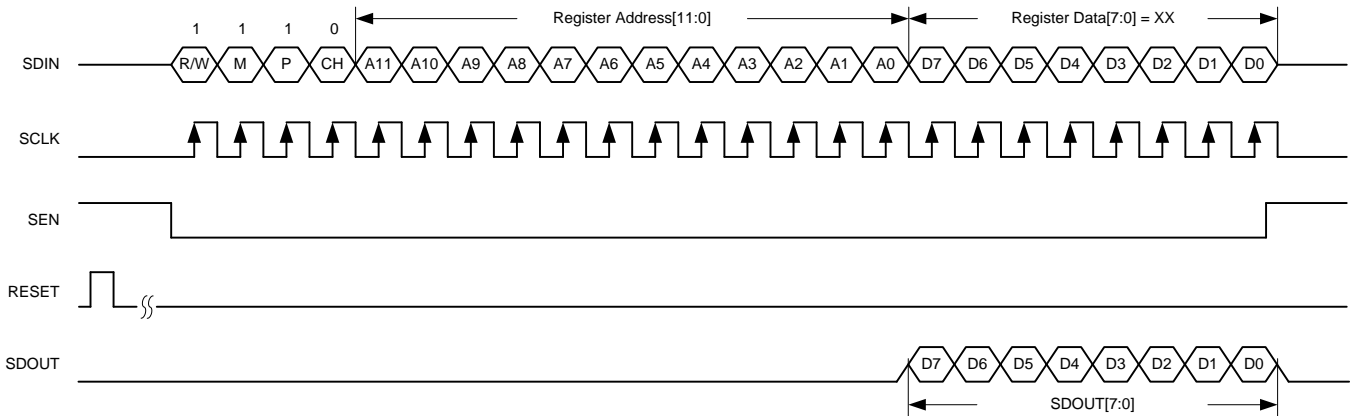

Figure 71. JESD Serial Register Read Timing Diagram
4. Reading back the register content on the SDO pin; see Figure 71. When a page is selected, multiple read backs from the same page can be done.